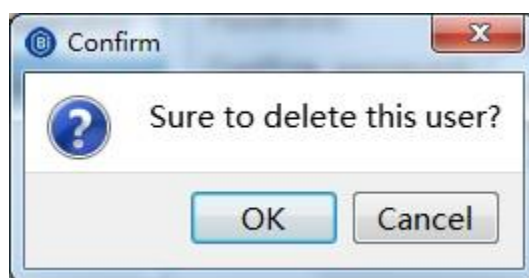

Figure. 8.7.7 Confirm to delete user
- Select the user for deletion in the user name list on the left and click **Delete**. A confirmation to delete will pop up as shown in Figure 8.7.7;